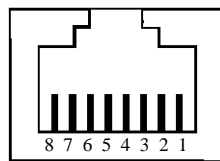

Figure 9 RJ45 Port
Figure 9 shows the pin numbers of the 10/100Base-T(X) RJ45 port.